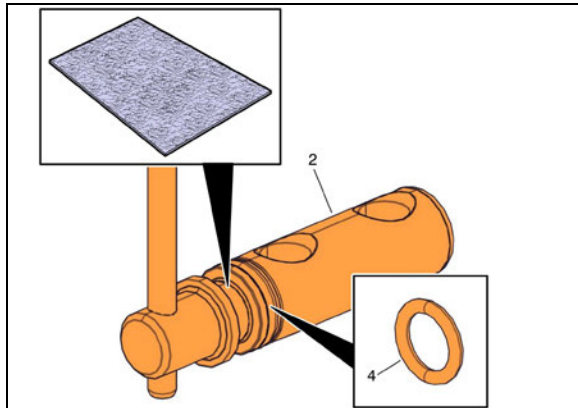

FIGURE 8: INSPECT THE O-RING (4) IN THE SPINDLE (2)
8. Gently scrape by hand and remove any loose debris or corrosion from the spindle and coolant filter housing using an abrasive cleaning pad (Figure 8).
**Note:** Inspect the O-ring (4) in the spindle (2) for damaged due to corrosion or during removal. Replace the O-ring using part number 968725 if needed. Replace the spindle using part number 3979940 if needed.